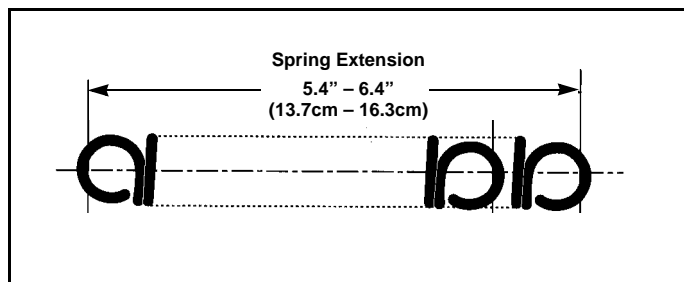

Fig. 3-7
**To engage** the pump clutch, with H-bar locked in neutral, release the chain from the latching slot. **NOTE:** When engaged the spring should be extended to a dimension of 5.4" – 6.4" (13.7cm – 16.3cm). Fig. 3-7